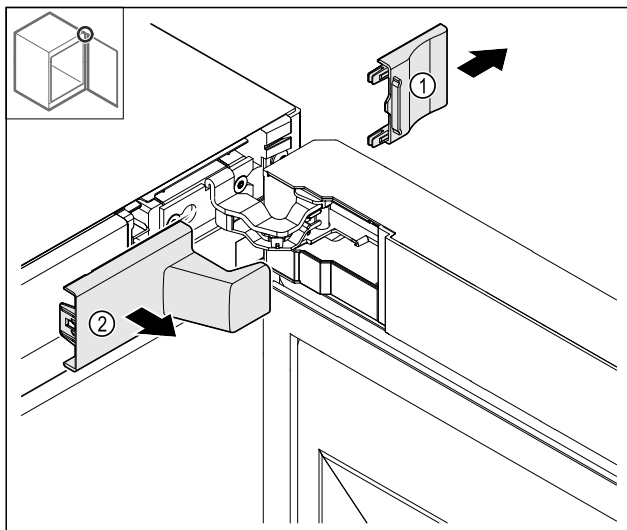

Fig. 8
- Remove the cover Fig. 8 (1) and then Fig. 8 (2).